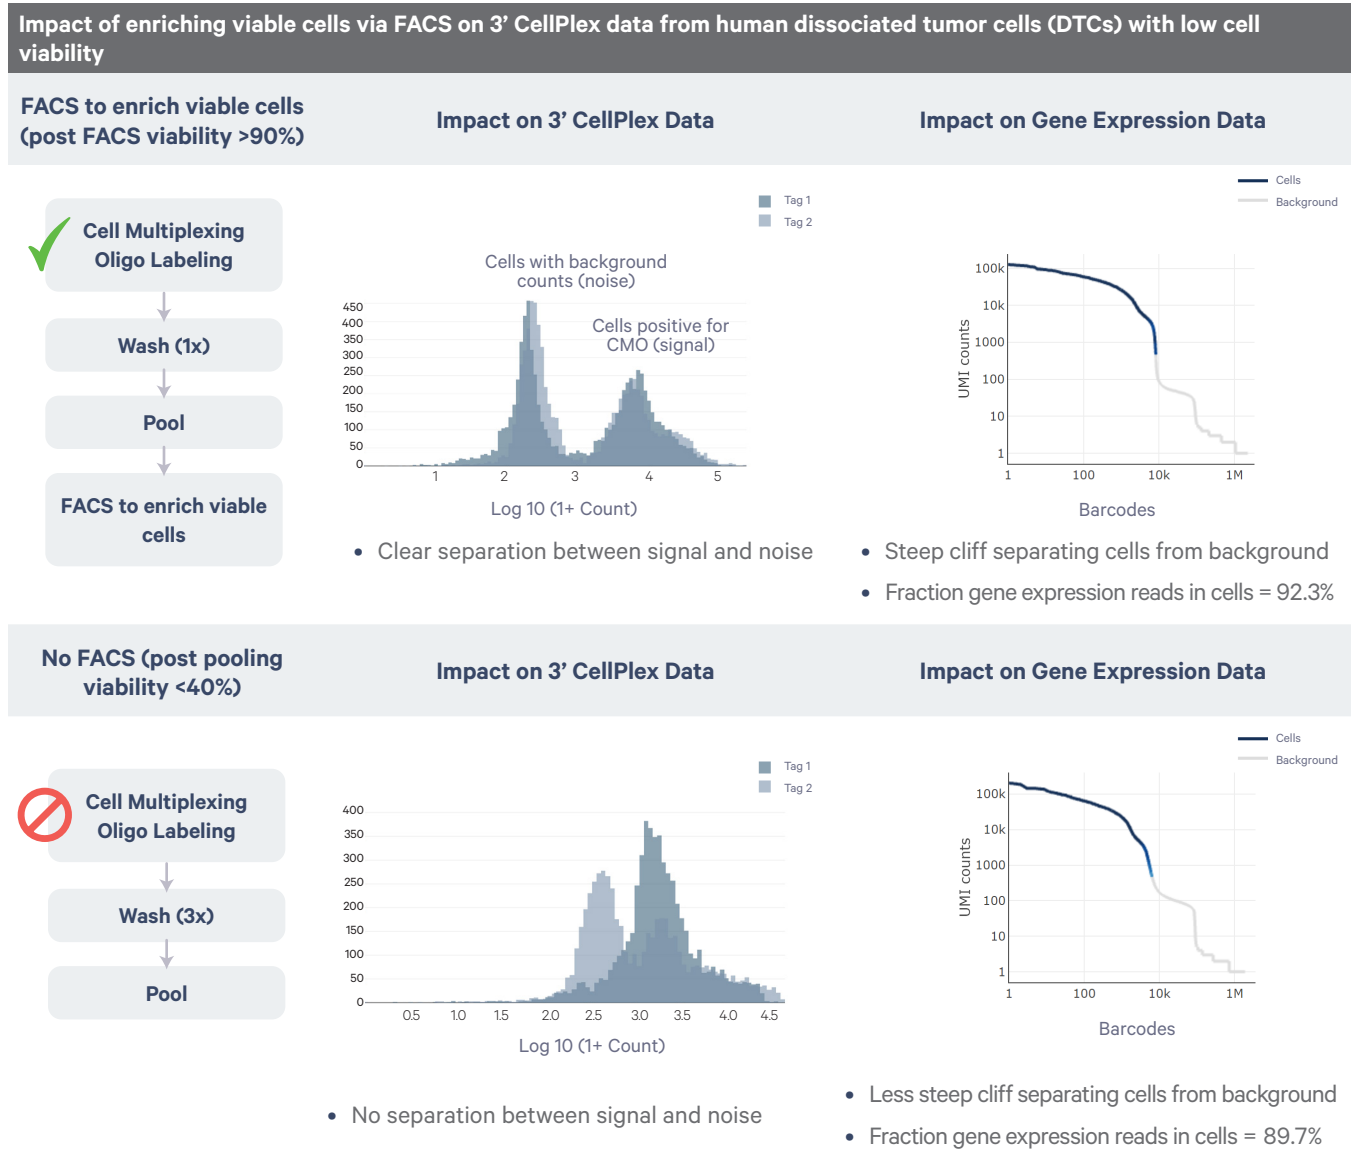

Figure 1. Histogram of CMO counts and gene expression barcode rank plot for samples with and without FACS enrichment of viable cells.
pool has lower viability, follow protocol 3 or 4 to perform fluorescence activated cell sorting (FACS) after CMO labeling to increase viability (Figure 1).
- Cell Multiplexing data can be severely impacted by low cell viability even if the single-cell behavior of the gene expression data is only mildly impacted (Figure 1).